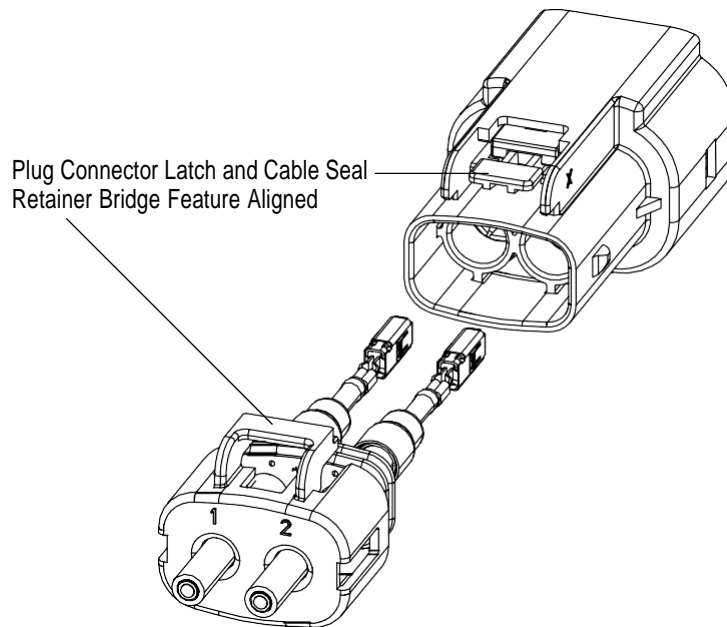

Figure 13
1. Orient the cable assembly so that the bridge feature on the cable seal retainer is aligned with the plug connector latch as shown in Figure 13.